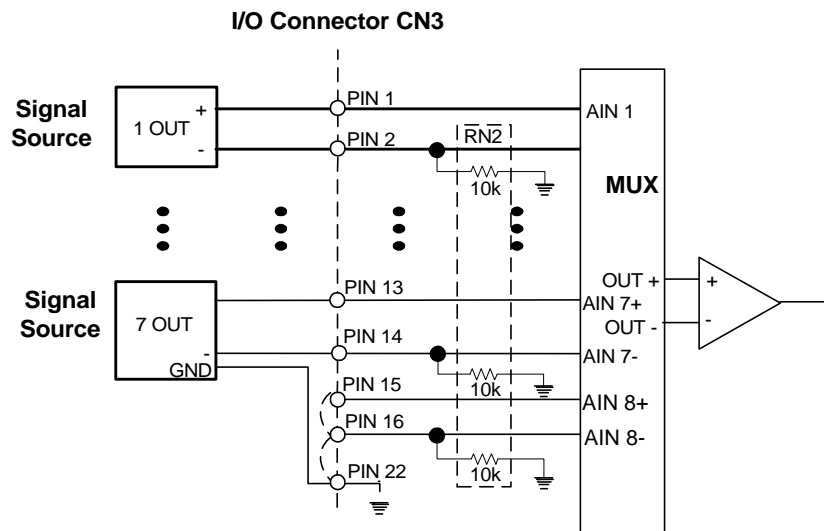

Figure 7. Differential Input Connections.
4. For signal sources with a separate ground reference, connect the ground from the signal source to an ANALOG GND (pins 18 and 20-22 on CN3). **Figure 7 shows how these connections are made.**